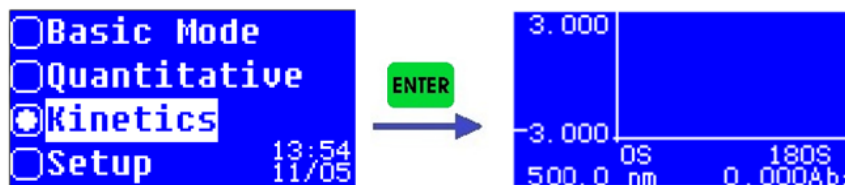

Fig. 3-32
Press “▲” or “▼” to select the function in the main interface and press “ENTER” to enter Kinetics measurement interface (Fig. 3-32).
Step 1: Enter Kinetics measurement interface (Fig. 3-32).